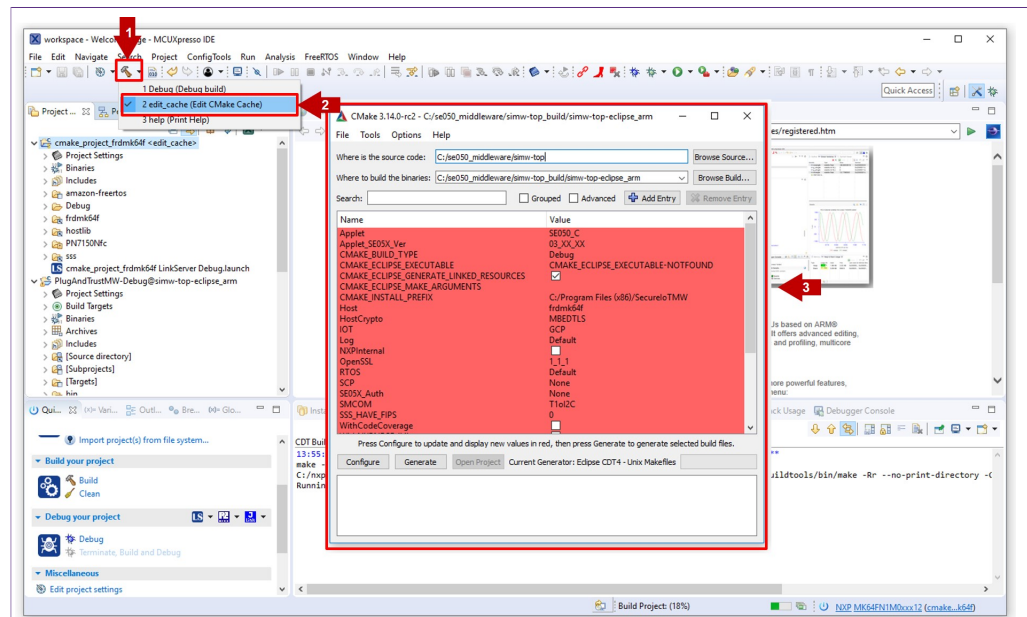

Figure 36. Configure CMake options of EdgeLock SE050 Plug & Trust middleware test examples.
3. The CMake GUI window will open in your laptop as shown in Figure 36. Using this GUI, you could change the CMake options (if needed). Leave out the **default** pre-selected options and close the CMake GUI window.